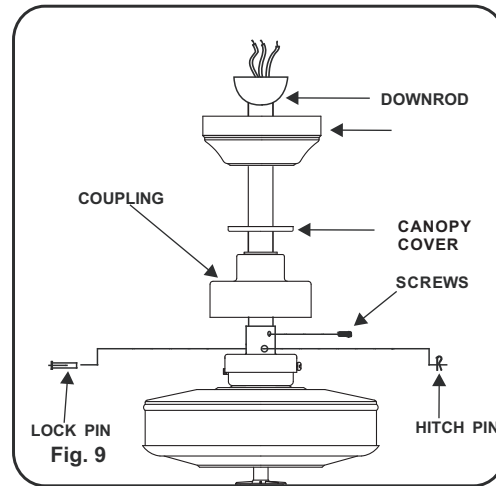

Fig. 9
**Step 5.** Slip coupling cover, canopy cover, and canopy onto downrod (Fig.9). Carefully reinstall hanger ball onto rod being sure that cross pin is in the correct position, set screws are tighten and wires are not twisted.